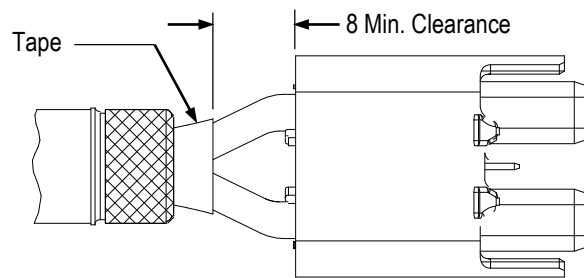

Figure 10
9. (OPTIONAL) Two or three wraps of 150° rated tape may be used as shown in Figure 10 to gather the wires if desired. Tape must not overlap onto the braided shield and must remain clear of the inner housing by no less than 8 mm.